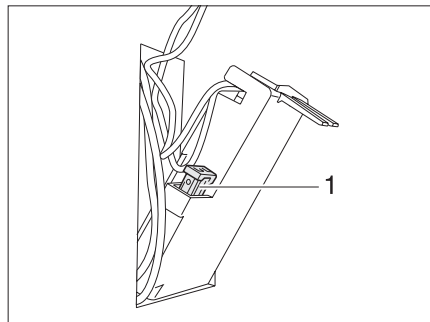

Fig. 102 Fuse for the Thetford toilet
- ▶ Replace the fuse (Fig. 102,1).